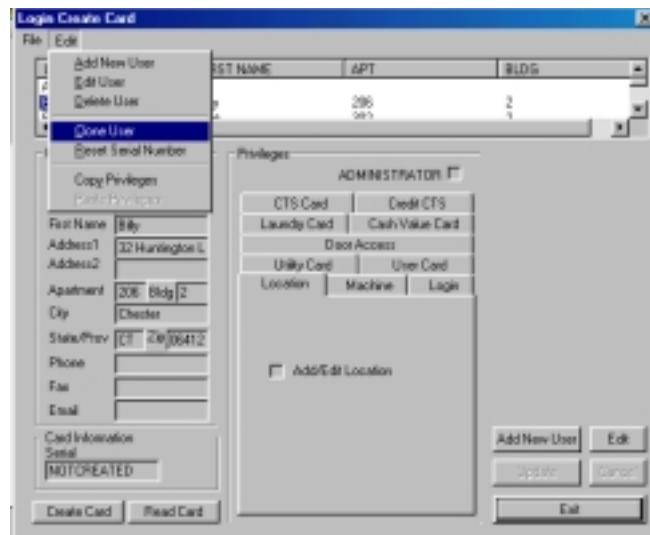

Figure 4.16 Cloning a User
3. Select Clone User from the Edit drop-down menu (Figure 4.16)